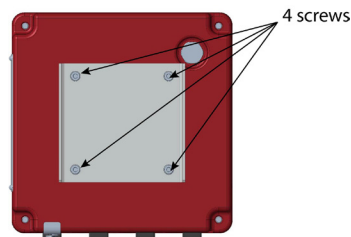

Figure 15: Rotatable adapter plate
3. If necessary, you can rotate the mounting bracket in 90° increments to accommodate the final orientation of the transmitter. From inside the enclosure, remove the 4 screws holding the bracket. Rotate the bracket and replace the screws. See *Figure 15*.